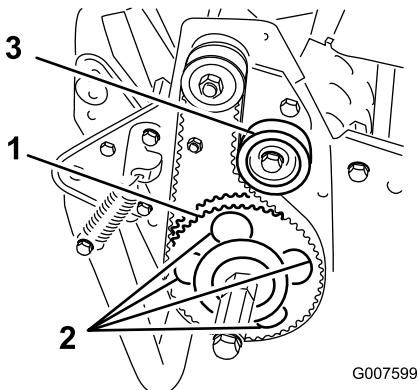

Figure 48
7. Rotate the driven pulley until the holes align with the 4 roller bearing flange screws (Figure 48).
11. Adjust the belt tension and tighten the idler pulley mounting screw (Figure 48).